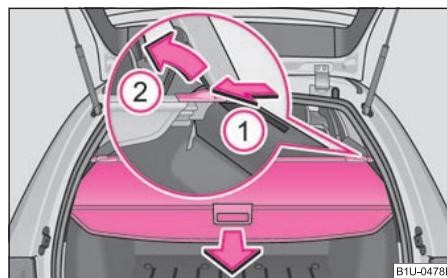

Fig. 77 Luggage compartment: removing the foldable luggage compartment cover
- Pull the foldable luggage compartment cover in direction of arrow ⇒ fig. 77.
⇒ page 71, fig. 77.